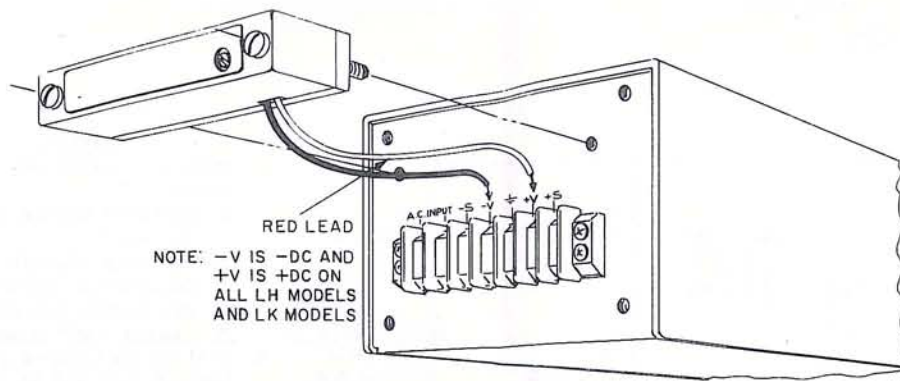

Figure 1. Overvoltage Protector, Typical Horizontal Mounting
- 1(a) Position the protector on the power supply, figure 1, 2, or 4 so that the unit is located adjacent to the supply output terminal block and the red and black leads are next to the terminal block.*